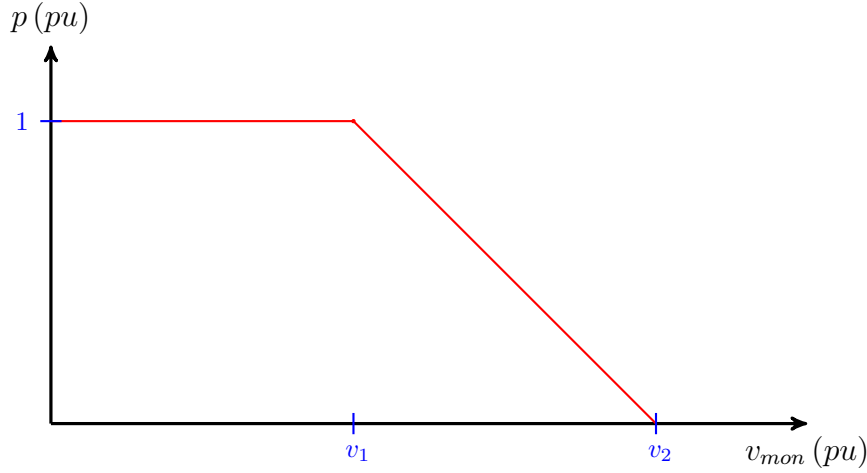

Figure 10: volt-watt curve
**Smart inverter volt-watt function** For the smart inverter volt-watt function, the monitored voltage in  $pu$  is applied,  $v_{mon}[t]_j$ , in the volt-watt curve defined in the *voltwatt\_curve* property to obtain the active power limit value in  $pu$ ,  $p_{Lfun}[t]_j$ . The Figure 10 shows an example of a user-defined volt-watt curve.